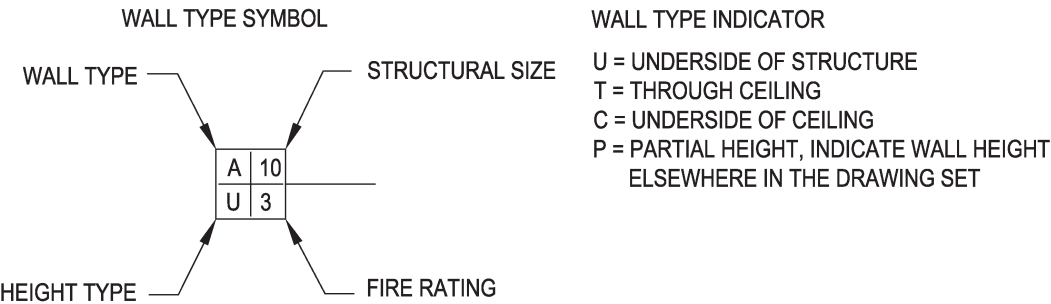

Figure 3 - Wall Type Indicator
- C. Use Wall Type Indicator – *Reference Figure 3 – Wall Type Indicator.*